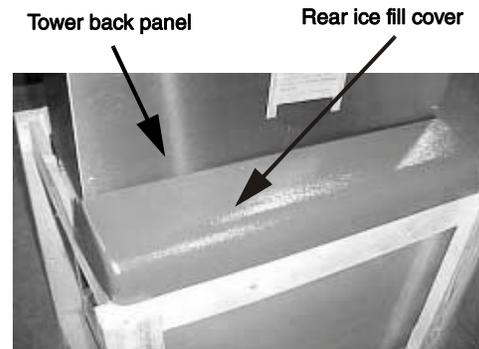

Figure 1.
1. Remove rear ice fill cover from unit (see Figure 1).